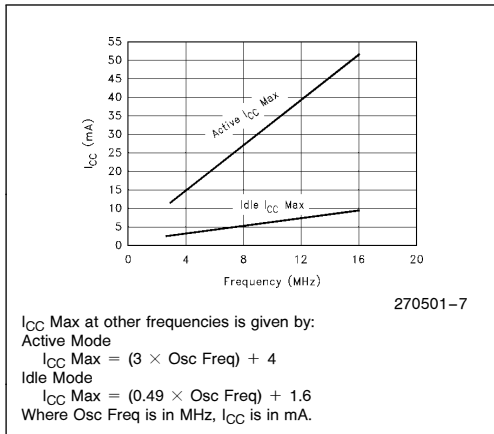

Figure 6. I_{CC} vs Frequency
- See Figures 6–9 for test conditions. Minimum V_{CC} for Power Down is 2.0V.